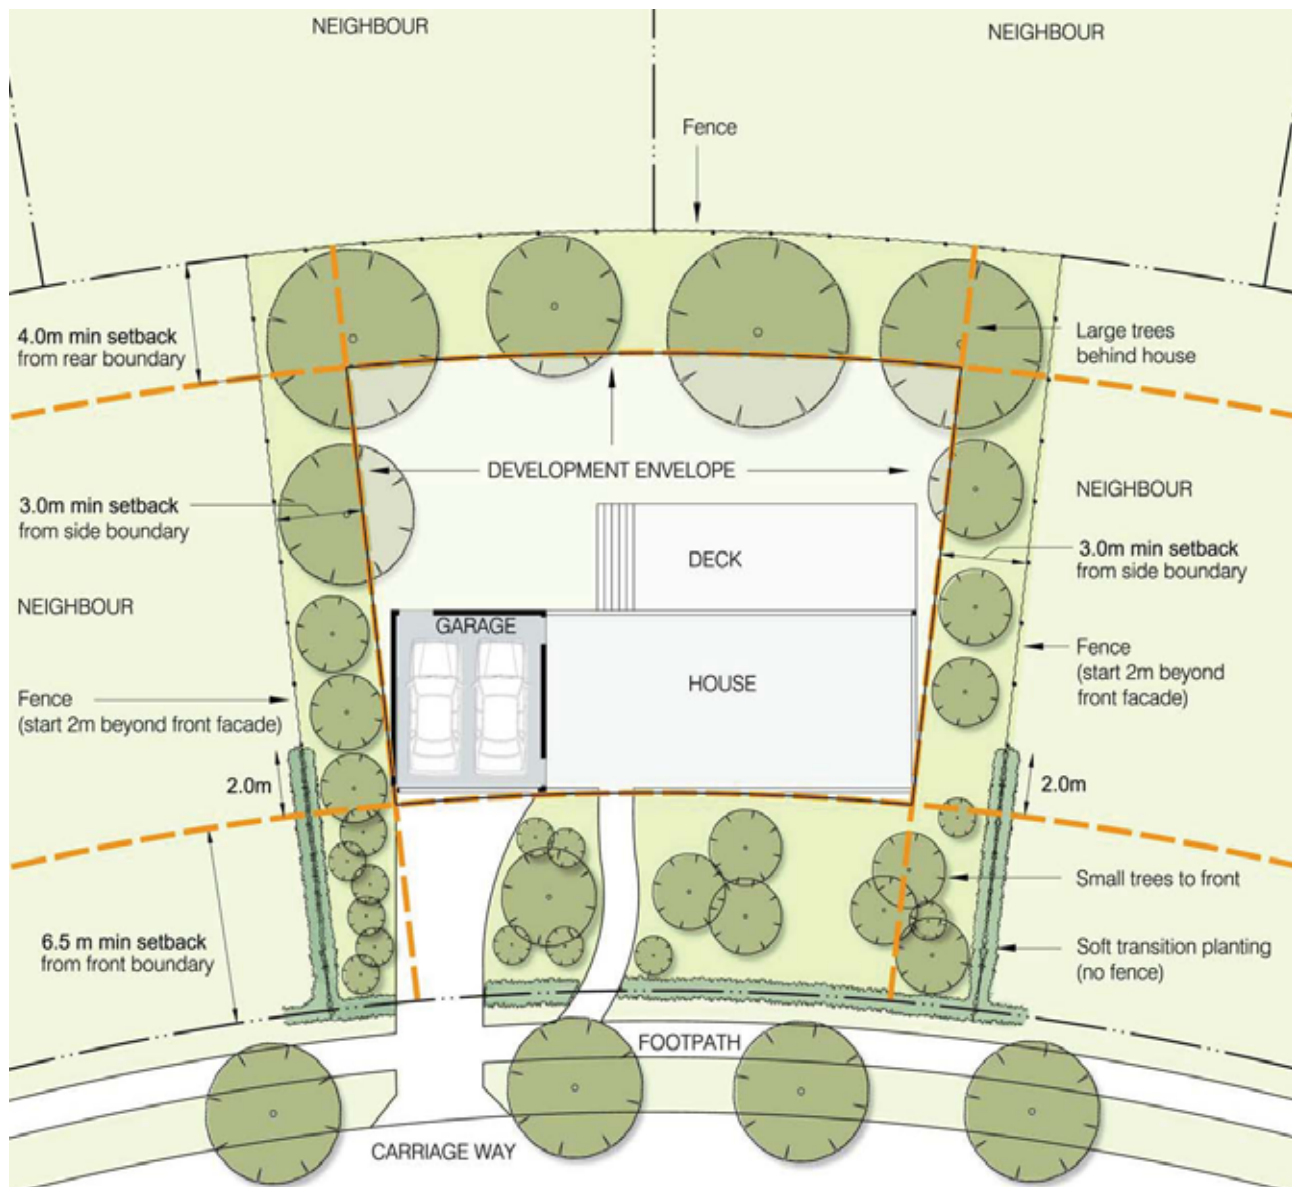

Fig. 2.1 - Development Envelope and Landscape (Detached Houses)
1.2.1 No fencing to the front of properties (retaining walls are permitted where necessary). See Fig. 2.1 - 2.3.
1.2.3 Side fences (beginning 2 m behind the front facade – see Fig 2.1 page ) are to be: